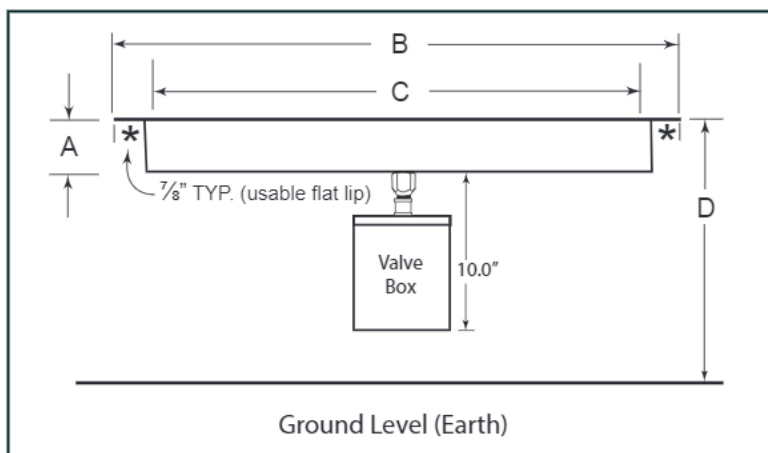

Fig 1. Fire Pit dimensions; refer to Table 1. (Dimensions applicable to round or square pans)
9. Construction of the finished fire pit should be stable and solid. From the bottom of the control box that houses the gas valve and module, it should be a minimum of 8-inches to the ground level. See Fig 1. Drainage is critical to ensure that water does not damage gas valve and components. Never install the fire pit system below grade.